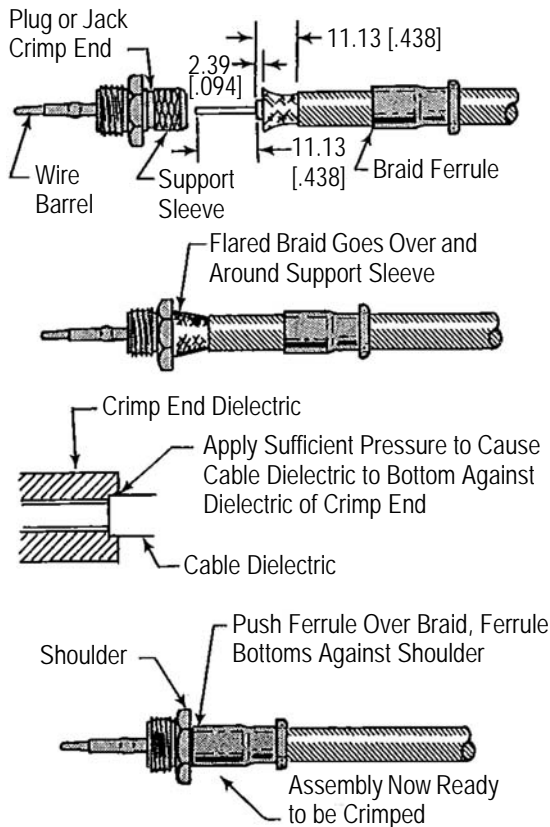

Figure 2
1. Slip the ferrule on the cable, then strip the cable and flair braid as shown in Figure 2.
3. Push crimp end back under braid so that the braid passes over and around the support sleeve. Apply sufficient pressure to cause the cable dielectric to bottom against the dielectric of the crimp end. See Figure 2. Twist the crimp end slightly to ensure bottoming.
4. Slide the ferrule forward and over the braid on the crimp end as far as it will go. Crimp end is now ready to be crimped. See Figure 2.